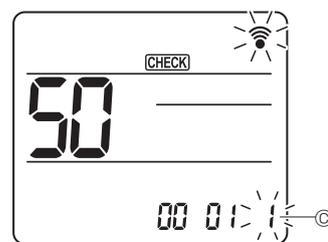

Fig. 6-19
- ④ Selecting the setting number
- Use the [DOWN] button to change the Setting number C. (Fig. 6-19)
- ⑤ To select multiple functions continuously
- Repeat select ③ and ④ to change multiple function settings continuously.
- ⑥ Complete function selection